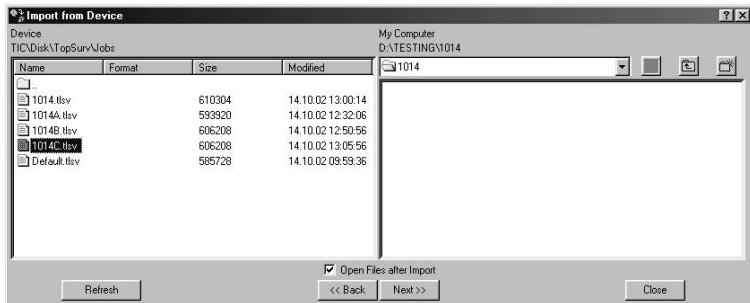

Figure 2-18. Select Files
2. On the next Import from Device dialog box, select the desired *.tsv file in the left panel (Figure 2-18).